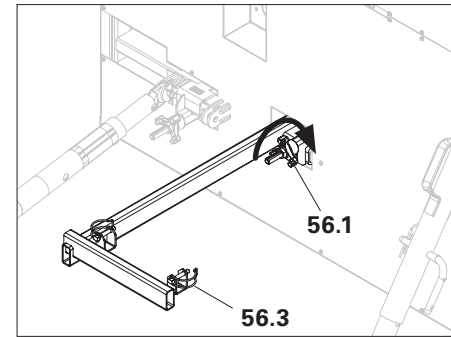

Fig. B5.07
1. Release Triple Wingnut (56.1) on the Ladder Connector (56) and pull out Hook Tie (56.2) towards the rear.
2. Place Ladder Connector on the panel strut (26) so that the Hook Tie (56.2) engages the connecting hole.
3. Tighten the Ladder Connector using the Triple Wingnut (56.1). (Fig. B5.07)